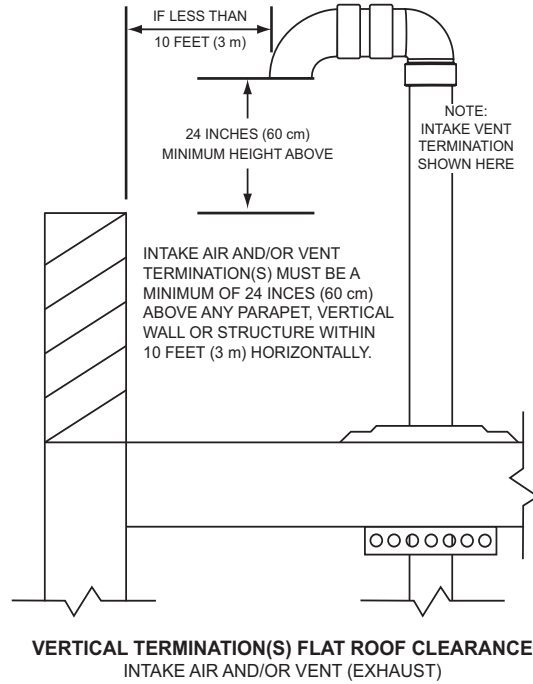

FIGURE 19.
On flat roof installations the intake air and the vent terminations must be a minimum of 24 inches (60 cm) above any parapet, vertical wall or structure within 10 feet (3 m) horizontally. See figure 19.
- Cement the Y concentric fitting to larger diameter kit pipe, see Figure 19.